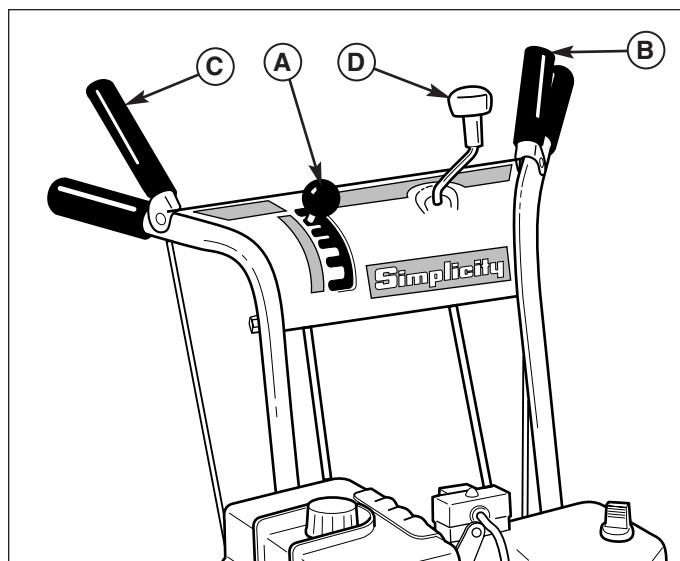

Figure 4. Operator's Control Position
The traction drive to each wheel can be locked and unlocked with the Traction Lock Pins (H, Figure 4) to permit the unit to “free-wheel,” allowing easier manual handling and transport of the snowthrower.
- A. Speed Selector** - This lever (A, Figures 4 & 5) is used to set the ground speed of the snowthrower.
- B. Traction & Free Hand™ Control** - This control engages the traction drive as the lever (B, Figures 4 & 5) is depressed, and disengages the traction drive when the lever is released. When both levers are depressed the Free Hand™ control is activated. This allows the auger control to be released yet the auger remains engaged until the traction Free Hand™ is released. **NOTE:** Changing ground speeds must only be done while the Drive Control is in the disengaged (fully released) position.
- C. Auger Control** - The Auger Control clutch lever (C, Figures 4 & 5), engages the auger drive when the lever is depressed and disengages the auger drive when the lever is released (unless Traction Free Hand™ control is also depressed-see above).
- D. Chute Direction Control** - The Chute Direction Control (D, Figures 4 & 5), allows the discharge chute to be rotated to throw snow in the desired direction. Snow may be thrown at any angle from straight left, to straight forward, to straight right.
- F. Chute Deflector Knob** - This knob (F, Figures 4 & 5) allows the discharge Chute Deflector (E) to be locked in the desired tilt position.
6. Check the Drive Control (B, Figure 4), and Auger Control (C) for proper operation. If adjustment is required, see the Service Section for procedures.
7. Check the Chute Direction Control (D, Figure 4) for proper operation. The discharge chute should rotate freely in both directions. See the Service Section for adjustment procedures and troubleshooting.
8. Check the Chute Deflector (E, Figure 4) for proper operation. The deflector should pivot freely up and down when the Chute Deflector Knob is loosened. If adjustment is required, see the Service Section for procedures.
10. Check the Speed Selector (A, Figure 4) for smooth operation. The control must move freely into each speed position gate and remain in position when released. If the Speed Selector does not move freely into all forward and reverse speed positions, contact your local authorized dealer for assistance.